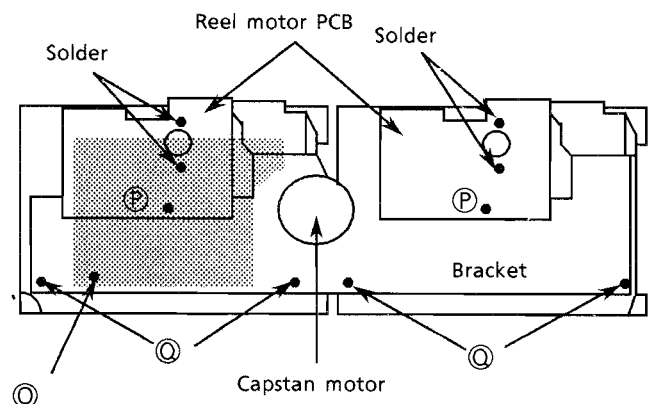

Fig 17
3. Remove the screw ③ to remove the echo circuit board (Fig 17).
4. Remove the screw ④ fixing the reel motor PCB.
3. Remove the 4 screws ⑤ fixing the bracket (Fig 17).
3. Remove the screws ㉔ and the bracket to remove the fly wheels (Fig 17).